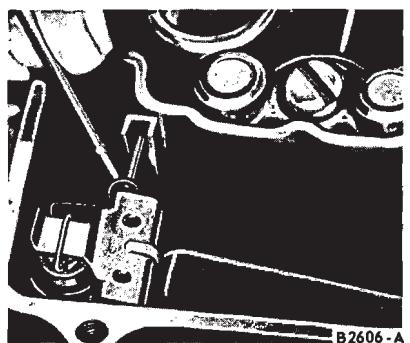

FIG. 13—Float Shaft Retainer Removal or Installation
16. With the use of a screwdriver, position the float shaft retainer in the groove on the fuel inlet needle seat (Fig. 13). Check the float setting.